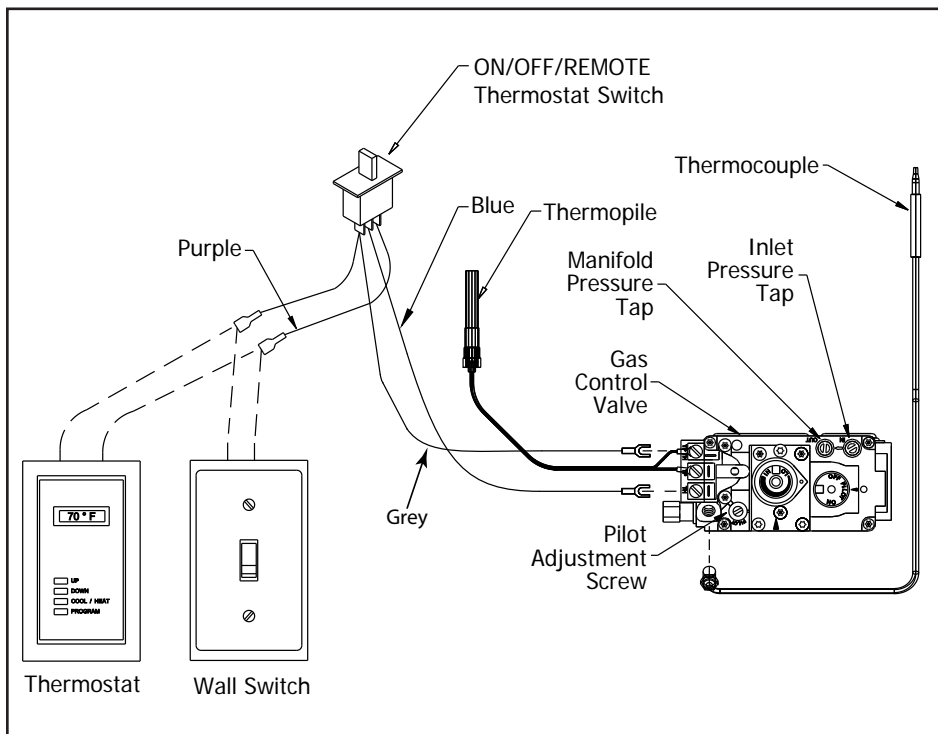

Figure 51: Accessory Wiring
The C44 comes from the manufacture with an on/off switch mounted to the control panel. Access is limited to switch once the unit is hot. **A wall mounted burner switch or thermostat must be used for safety.** See Figure 51 for wiring the switch or thermostat into the unit. Disconnect the connection behind the switch in the control panel as tap into the (2) terminals as shown in Figure 51.